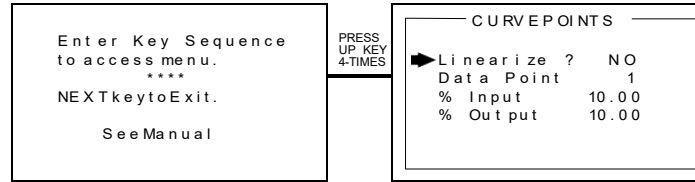

Figure 5-4: Linearization Menu
**Linearization Data** allows nonlinear signals to be linearized by entering the correct curve into the ST-48 (Figure 5-4). If Linearize is set for NO, the CURVE POINTS menu data is not used